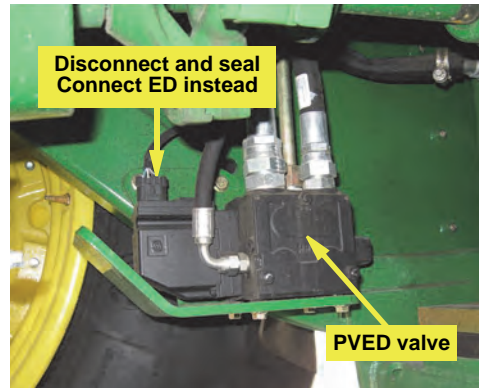

Figure 2e: PVED location and factory cabling
- f. Locate the PVED valve on the front right inside frame slightly behind the front axle (Figure 2e).
- g. Locate and disconnect the 4-pin wire connector from the PVED valve. Seal (weatherproof) the disconnected cable connector with plastic wrap. Connect cable **ED** (not shown) to the open wire connector on the PVED valve (Figure 2e).